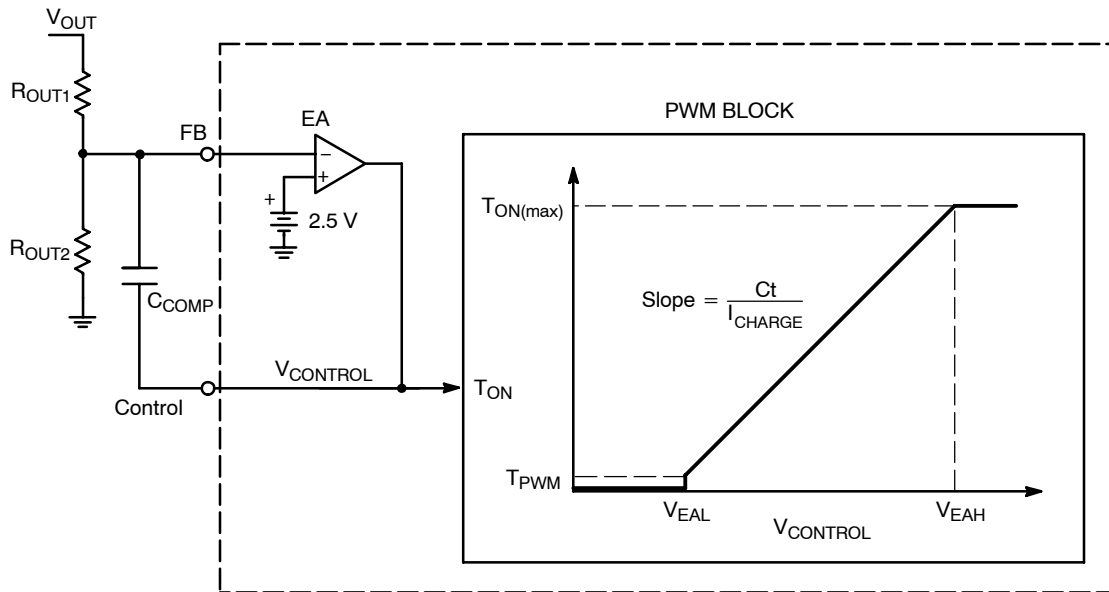

Figure 25. Error Amplifier and On Time Regulation Circuits
The NCP1606 is configured to regulate the boost output voltage based on its built in error amplifier (EA). The error amplifier’s negative terminal is pinned out to FB, the positive terminal is tied to a  $2.5 V \pm 1.5\%$  reference, and the output is pinned out to Control (Figure 25).